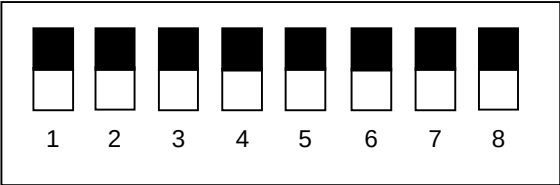

Figure 2.2 Standard DIP Switch Settings
- (3) Perform the following procedure.
(4) Set DIP switch No.1 as shown in Figure 2.2.